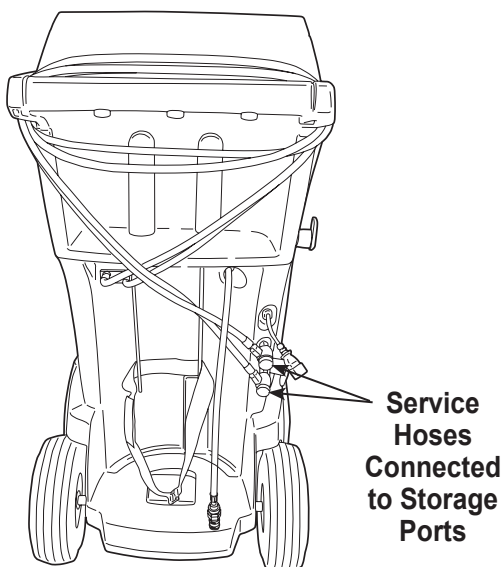

Figure 13
1. When prompted, connect the service hoses from the machine to their storage ports and open coupler valves as shown in Figure 13.